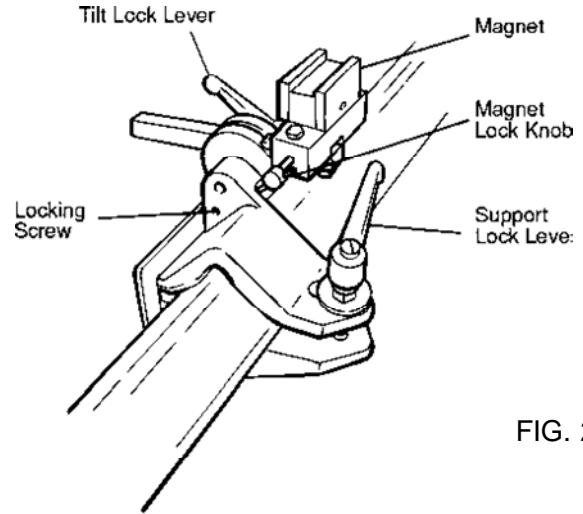

FIG. 29
1. Loosen the tilt lock lever and magnet lock knob on the middle support. See FIG. 29. Move the magnet down and away from the bedknife location, then tighten the tilt lock lever enough to secure the magnet support rod.
7. Square up the middle support to the bottom surface of the bedknife. Lock it in place by tightening the tilt lock lever. See FIG. 29. Be sure the magnet is far enough back from the front face that it won't interfere with the wheel when grinding the front face.
You must now tighten the center support magnet swivel lock knob shown in FIG. 29. Now remove and store the touch gage and retighten the tee knob in the motor pivot shaft.